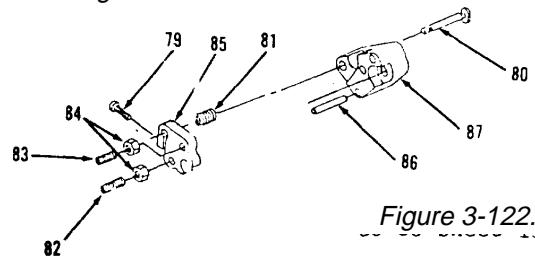

Figure 3-122.
4. Install two nuts (84) and setscrews (83 and 82) loosely, if removed, in collar (85, Figure 3-122).
5. Install bolt (80) in block (87).
6. Install spring (81) on bolt (80).
7. Install bolt (80) with notch on end of bolt (80) in alignment with bolt (79) hole.
8. Install bolt (79) securing collar (85) to bolt (80).